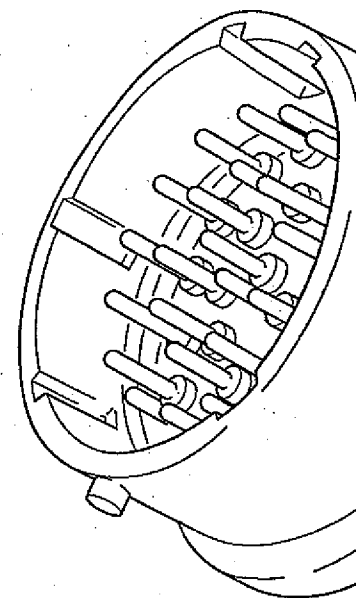
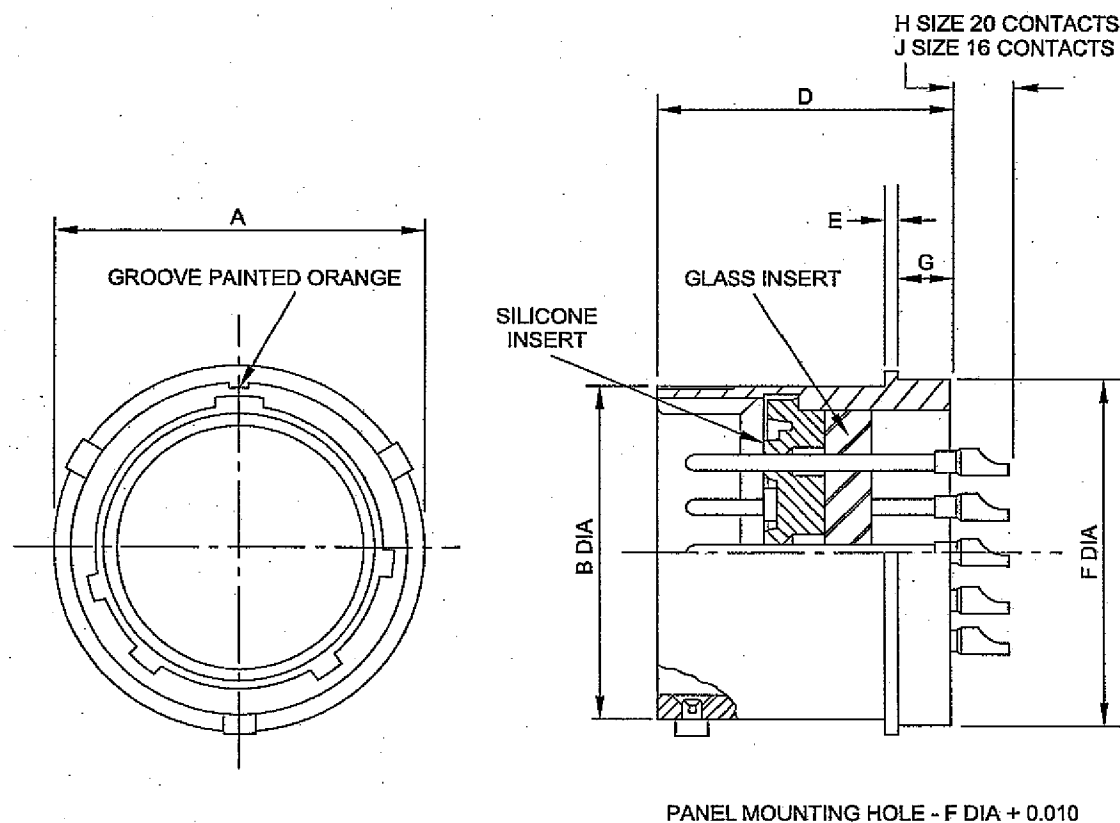

Fig 20 416H Solder mount receptacle
Fig 21 461H Solder mount receptacle, dimensions
15.1 The 461H solder mount receptacle (Fig 20) conforms to MS3113 specification. Details are given in Fig 21 and Table 12. The dimension of the panel mounting hole is diameter F, plus 0.010 in.